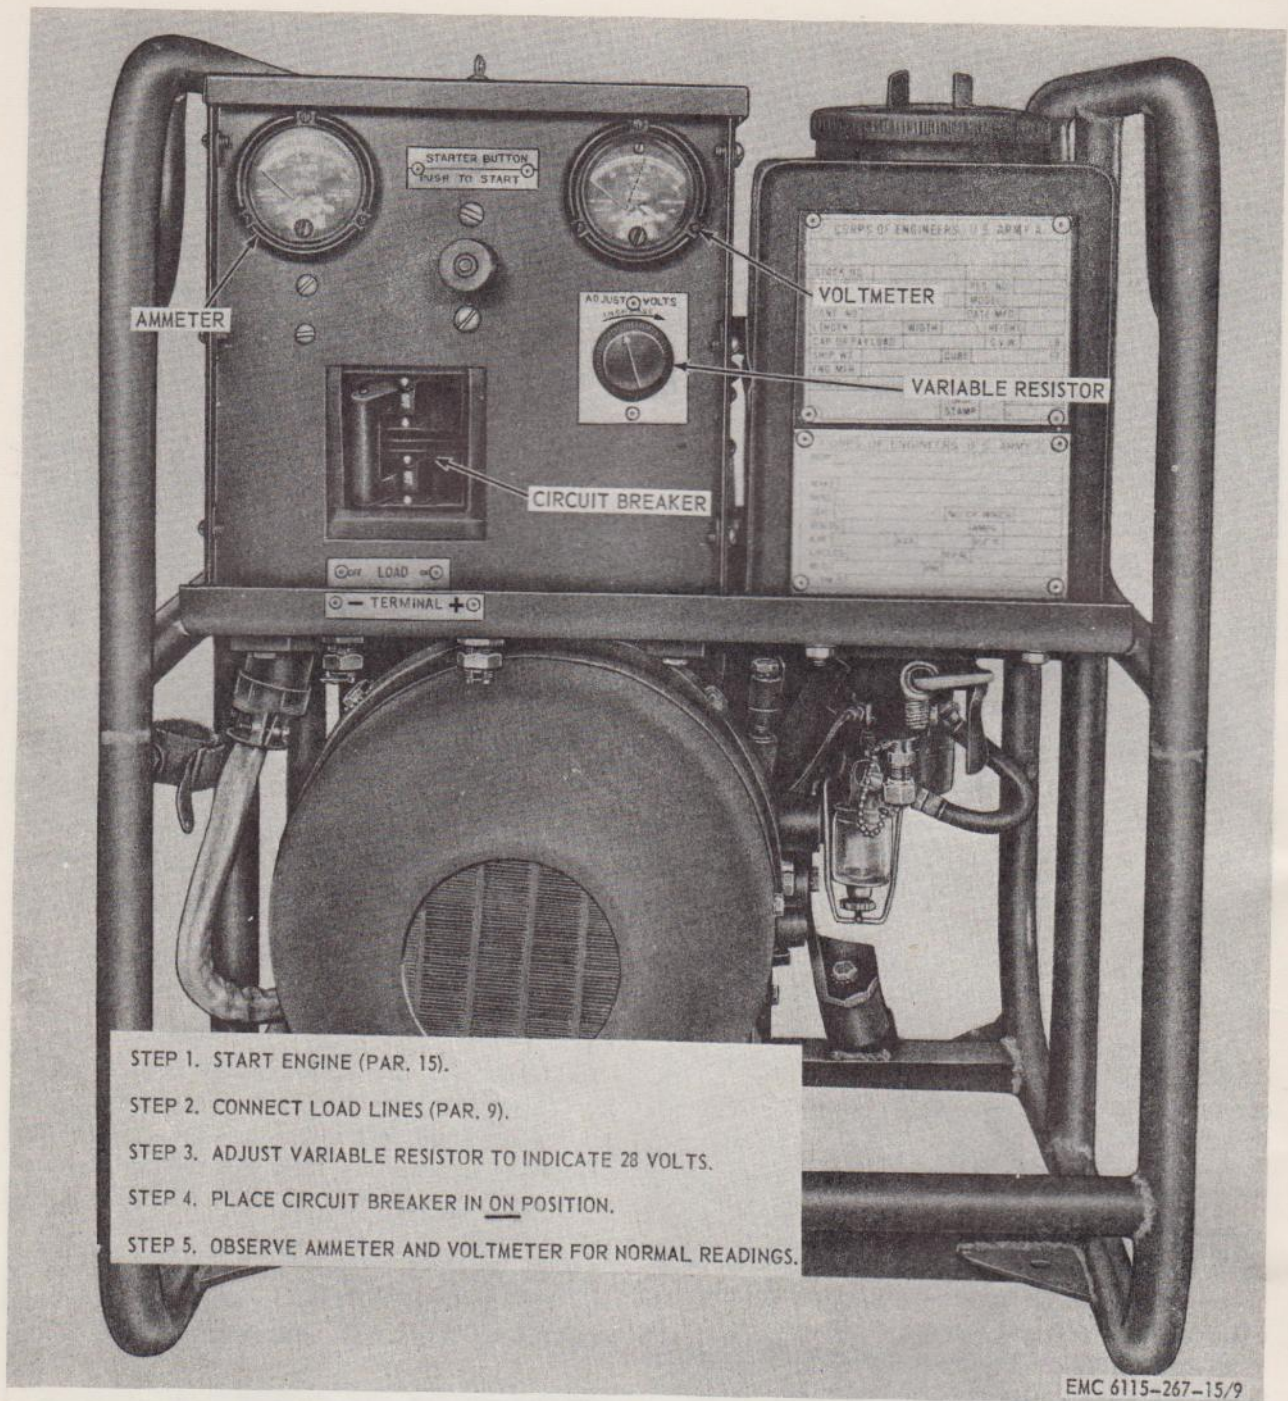

Figure 9. Generator operating instructions.
b. *Operation.* Refer to figure 9 for generator operating instructions.